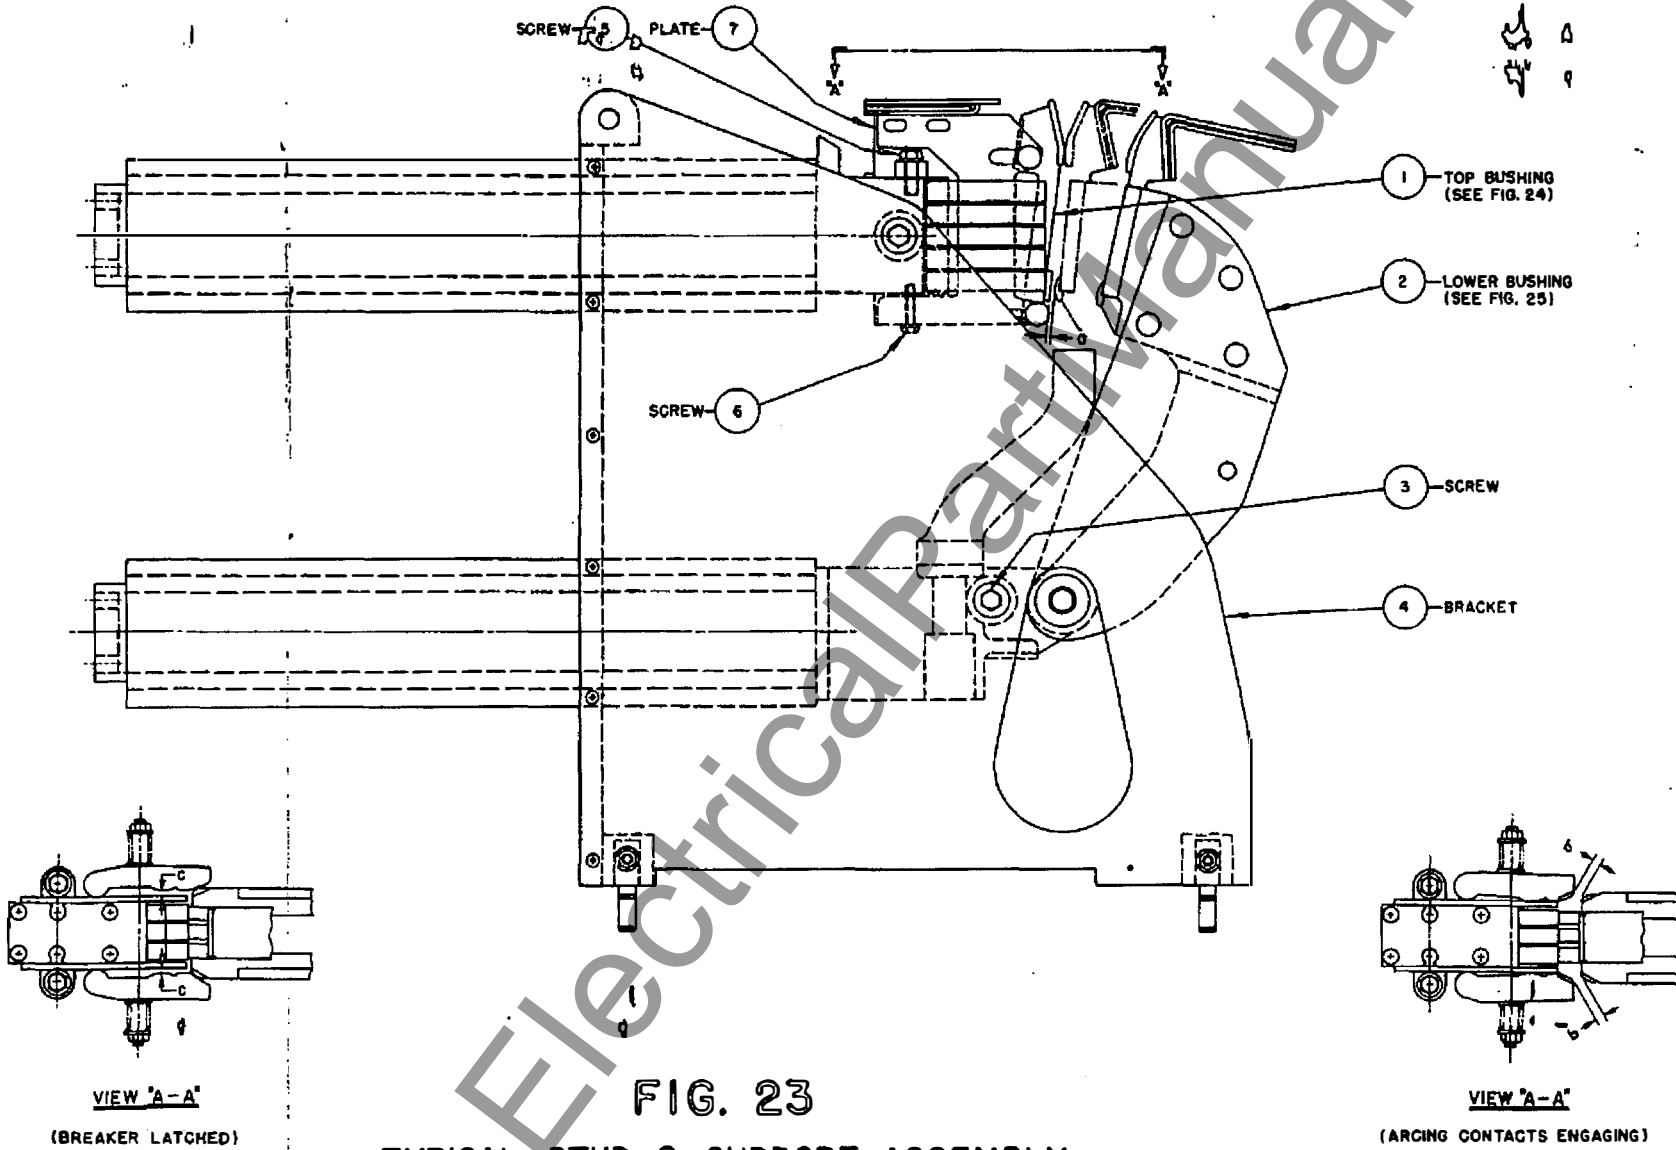

FIG. 23
To adjust contact alignment, close and latch breaker. Loosen two screws (24-24) and two screws (24-25). Move top block (24-8) and bottom block (24-13) sidewise until dimension c, View "AA", Figure 23, is $1/16 \pm 1/64$. Refasten screws (24-24) and 24-25). Both the contact alignment and stroke will be in proper adjustment.
This adjustment is accomplished by lengthening or shortening effective length of link (21-47) to bring dimension c, View "AA", Figure 23, to $1/16 \pm 1/64$. Open breaker; screw nuts on bottom of link (21-47) on or off stud as required to bring this dimension to within tolerance in all four measurements in the phase (see Section 4.14). Tighten both nuts before attempting to close breaker to check adjustment. The stroke should be adjusted in each phase individually.
4.17 CONTACT LEAD (Fig. 23)
In order to prepare breaker for contact lead check and adjusting, be sure that breaker is open and disconnect the movable contact from operator link (21-47) by removing pin (21-46) and two spacers (21-45). Bring movable arcing contact (25-3) so that it just touches the stationary arcing contact (24-24) as shown in Fig. 23, View "AA", (Arcing Contacts Engaging). Measure dimension a, Figure 23, the shortest gap between the two tertiary contacts, and dimension b (View "AA", Figure 23), the shortest gap between the main contacts. Dimension a should be $5/32 +0, -1/32$ and dimension b should be $9/16 +1/16, -1/32$.